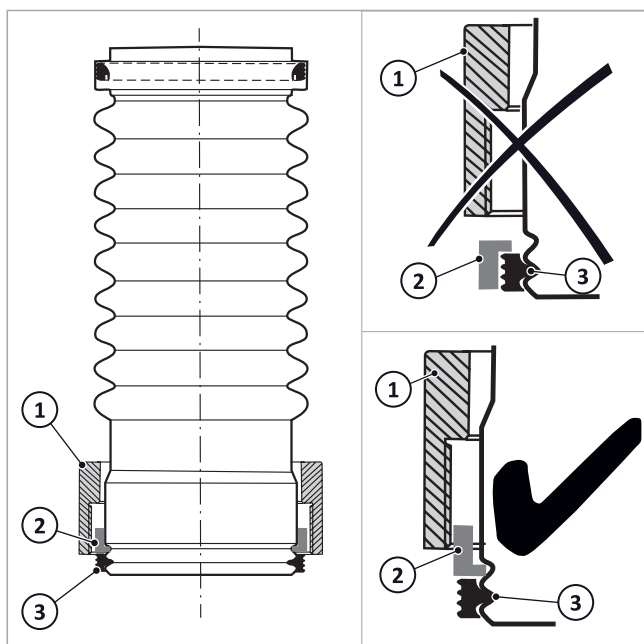

Fig. 58: Union attached
3. As shown in → fig. 58 slide the union nut (1), the snap ring (2) and the seal (3) onto the lower pipe end of the exhaust connection piece.